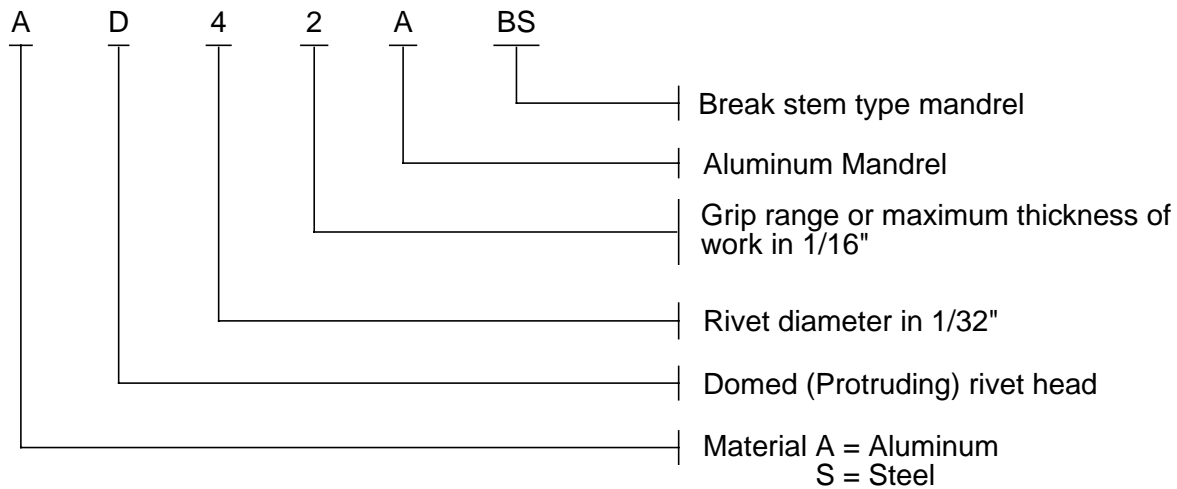
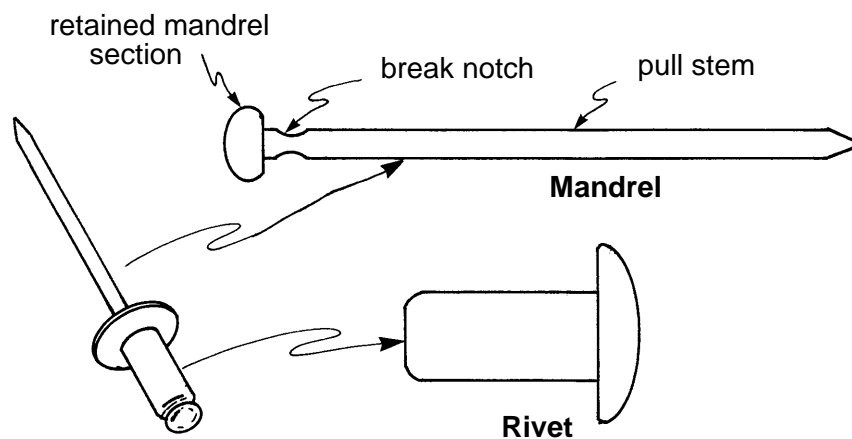

Figure 1 - Breakdown of Cherry Part Number Designation
Figure 2 - Rivet Nomenclature
- 5.1.1 Pop rivets are hollow rivets assembled on a solid mandrel for use in blind and non-blind applications. Refer to Figure 1 for the breakdown of the manufacturers part number designations. See Figure 2 for rivet nomenclature.